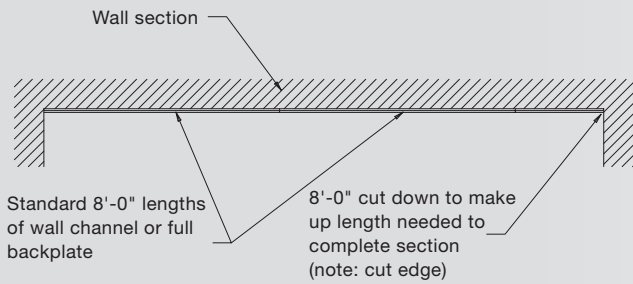

Figure S-1
- 1b. Cut the offset channel of full height backplate to the length needed. The channel and backplate are furnished in lengths of 4'-0" or 8'-0". Combine multiple lengths if needed to complete the distance. When joining two pieces, make sure that the cut end is at the end of the run. (Figure S-1)